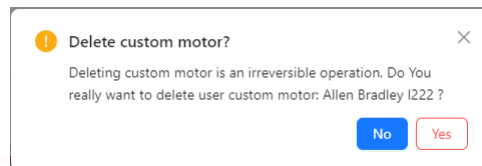

Figure 7: ST MC Workbench – Cards – Delete Custom Hardware Warning
- The *Delete* button (🗑️) lets the user delete the relative hardware. This is available with user custom hardware only. **Warning:** the *delete* action cannot be reverted and the Hardware data will be lost; a dedicated warning message will be shown, asking the user to confirm the action (Figure 7: ST MC Workbench – Cards – Delete Custom Hardware Warning).